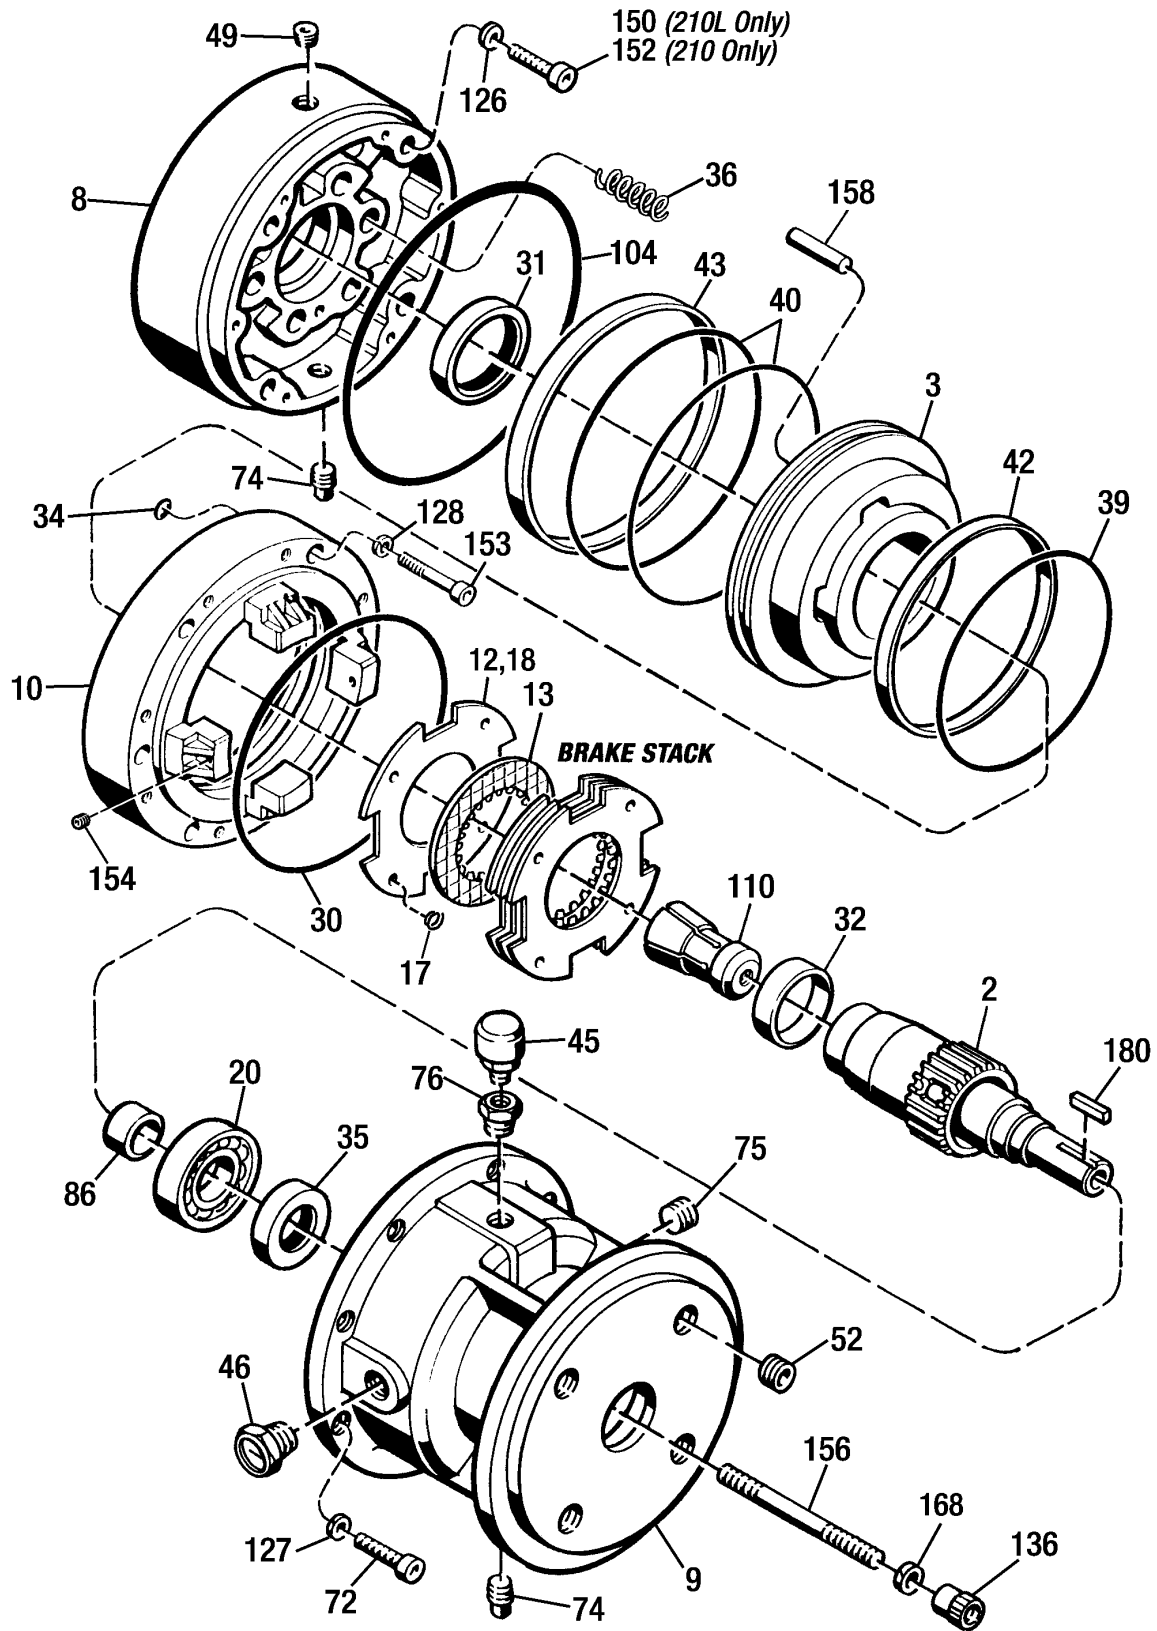

Figure 10.1 - MB-210 and MB-210L Coupler Brake
**Repair Parts List (Figure 10.1)**